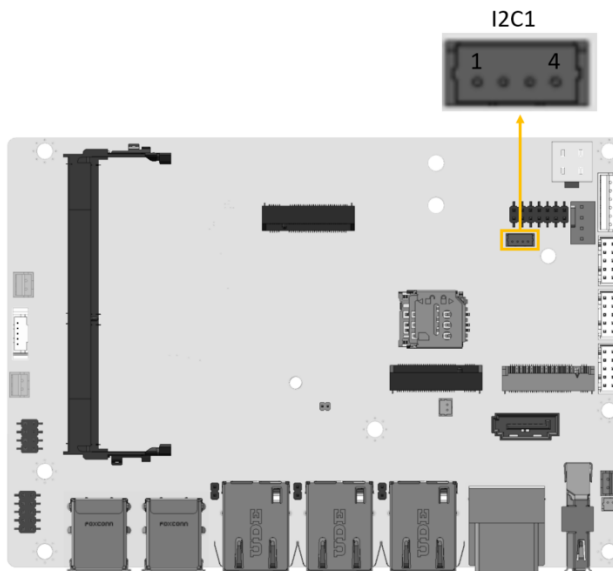

Figure 4-18: SMBus Connector Location
- CN Location:** See **Figure 4-18**